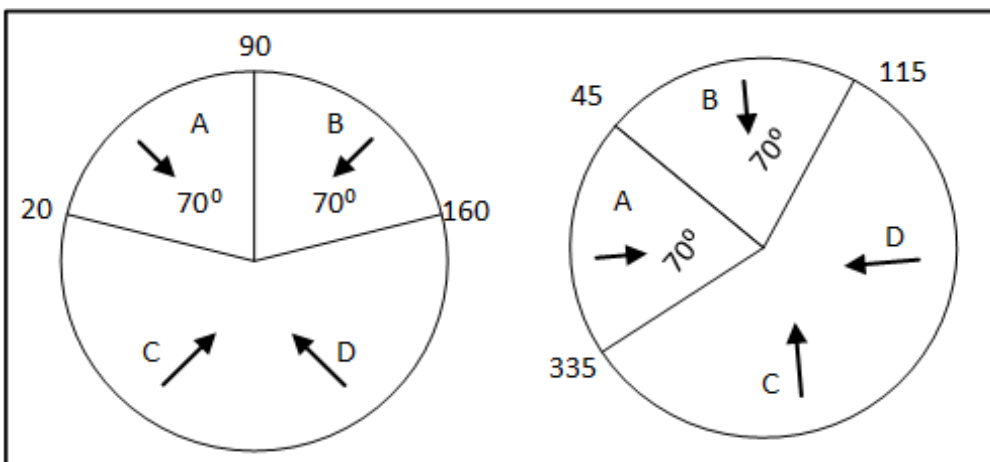

Figure 8: Wind Direction Sensor Definition (7.19)
- 7.19: The number entered here defines the area (the number entered  $\pm 20^\circ$ ) (Figure 8).